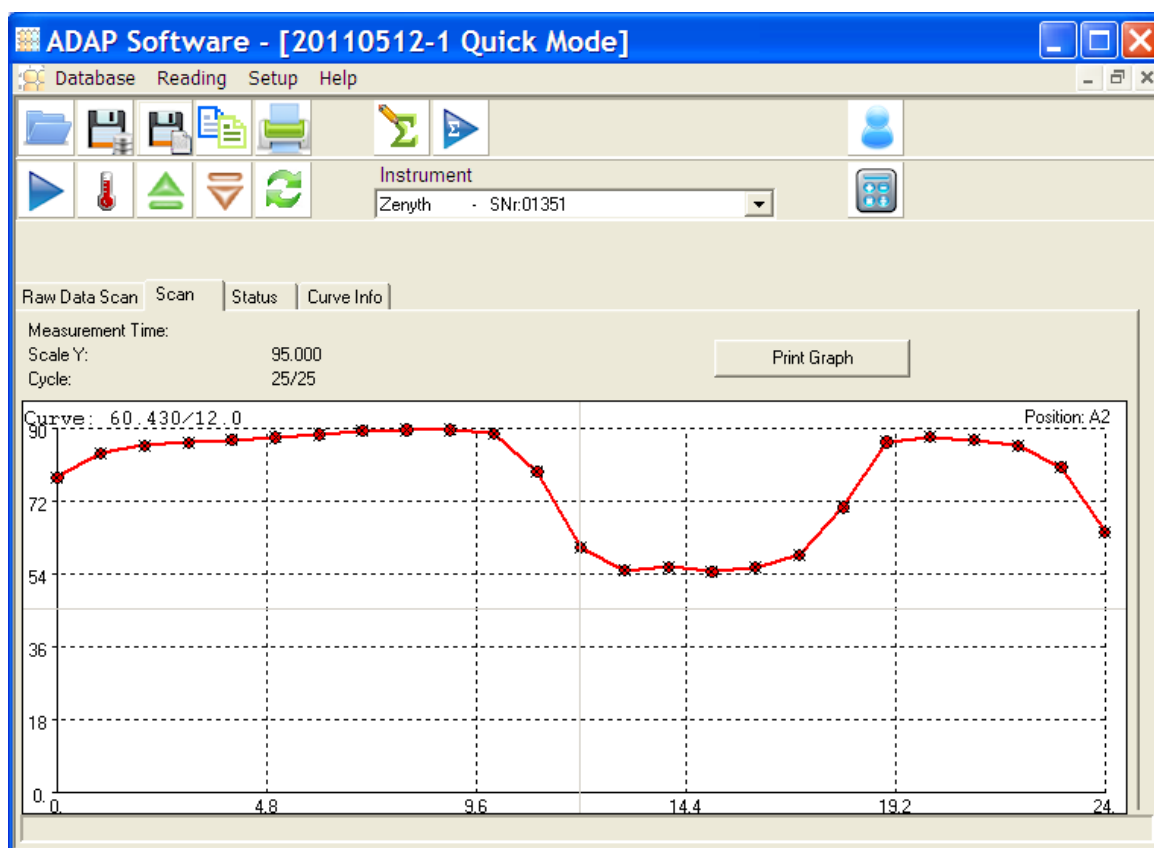

Figure 7-14: Linear scan graph for a single well
2. Choose Zoom Graph from the menu that appears. Scan displays the detailed linear scan graph for the selected well (Figure 7-14).